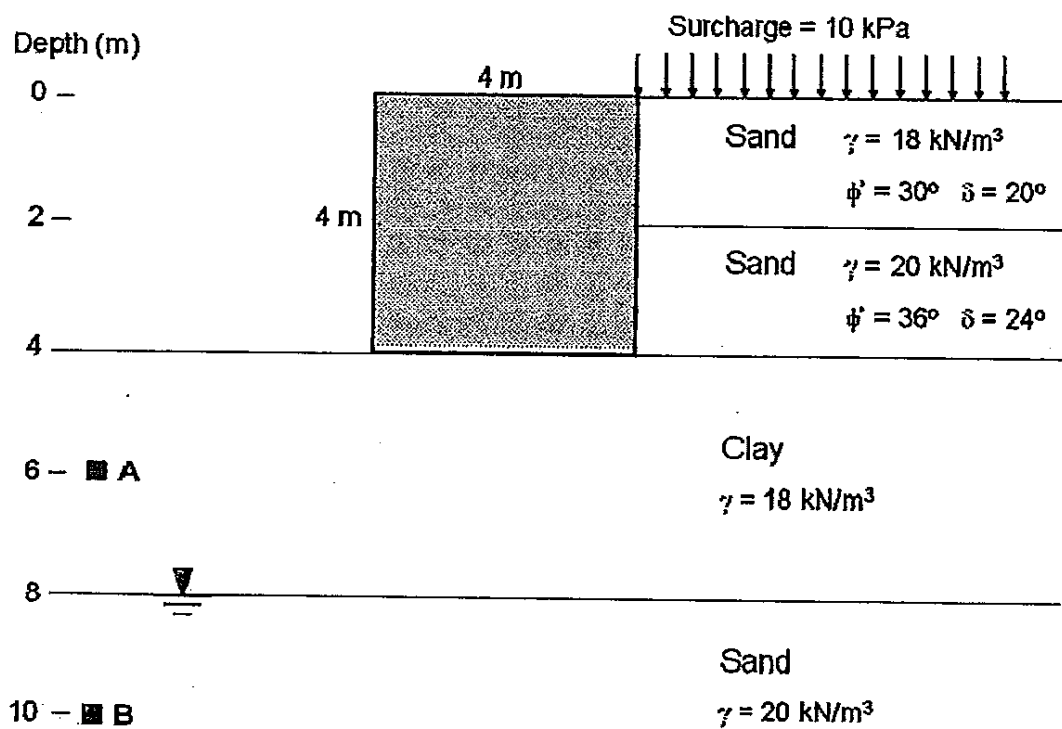

Figure Q1
1. The soil profile of a site is shown in Figure Q1.
- (b) Concrete blocks are used to form a temporary retaining wall as shown in Figure Q1. The wall is used to resist a lateral force pushing on the wall.